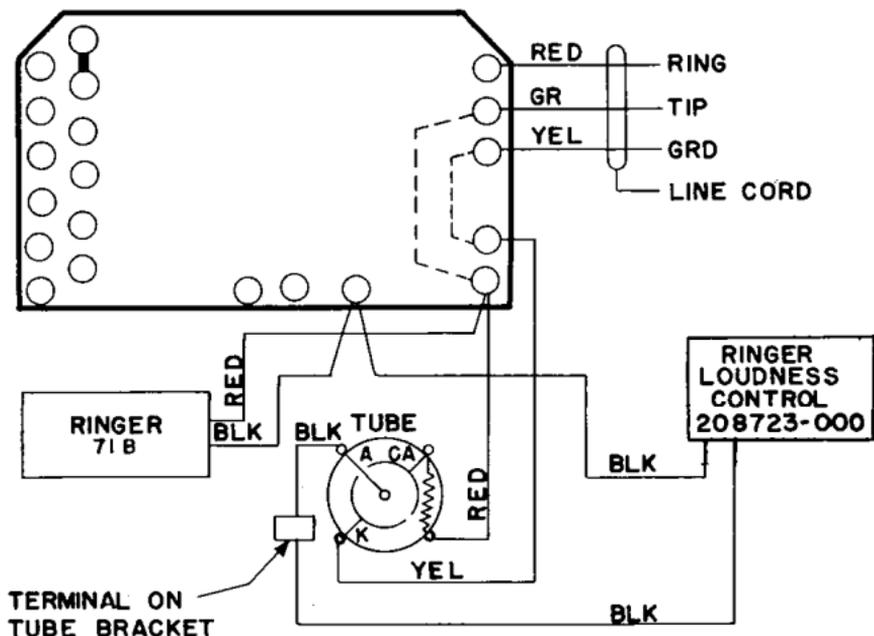

Figure 17. Wiring Diagram for +Tip and +Ring Station, Using 1543 or 1543 Two-Step Telephone.
(2) $+$ tip station (figs. 17 and 19).
(3) *+ring station* (figs. 17 and 19). The internal wiring of the telephone instrument remains the same; however, the ring of the line is connected to terminal L2, and the tip of the line is connected to terminal L1 (1543, 1543 two-step, and 1543W).